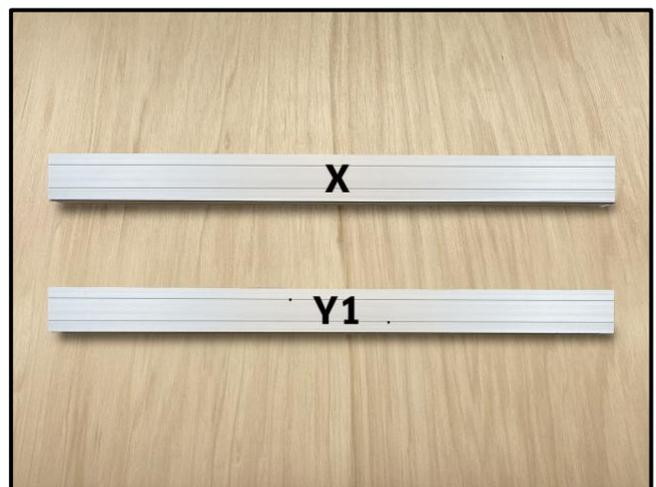

Figure 16
- Pre-Dec 2019 extrusion rails. See **Fig. 16**.